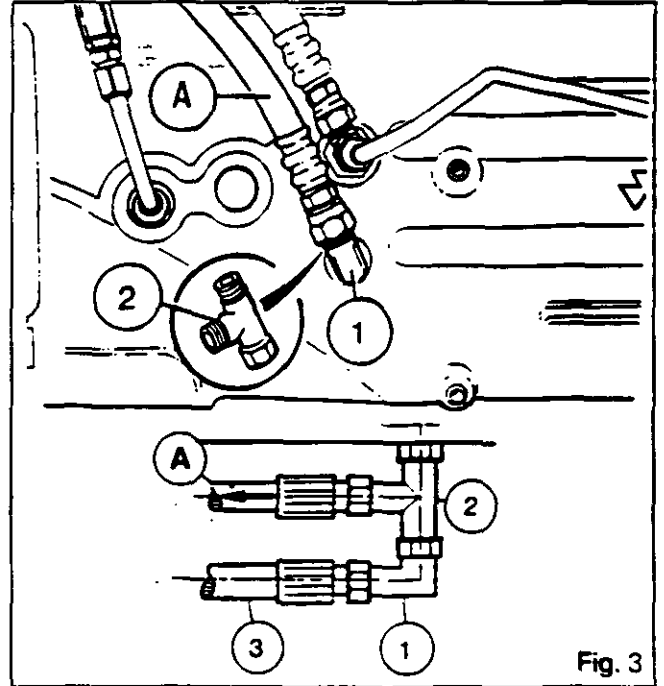

Fig. 3
10. Remove hose **A** ( Fig. 3 ) which comes from the 17 bar valve.
13. Fit the power take-off return hose **(3)** ( Fig. 3 and 4 ).